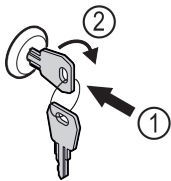

Fig. 128 Example illustration
- Insert key Fig. 128 (1).
- Turn key clockwise by 90° Fig. 128 (2).